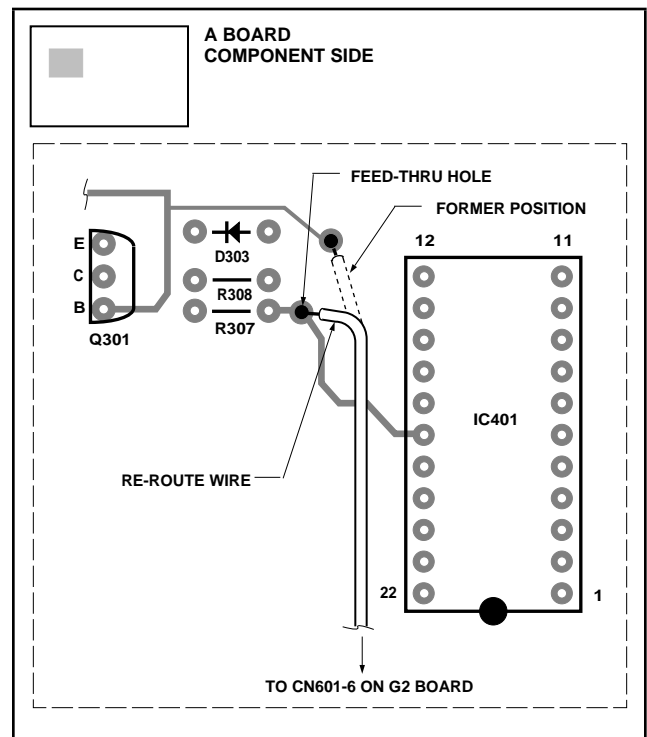

Figure 1
(See Figure 1.)**
3. Move the wire from CN601-6 on the G2 board to the feed-thru hole shown in Figure 1.